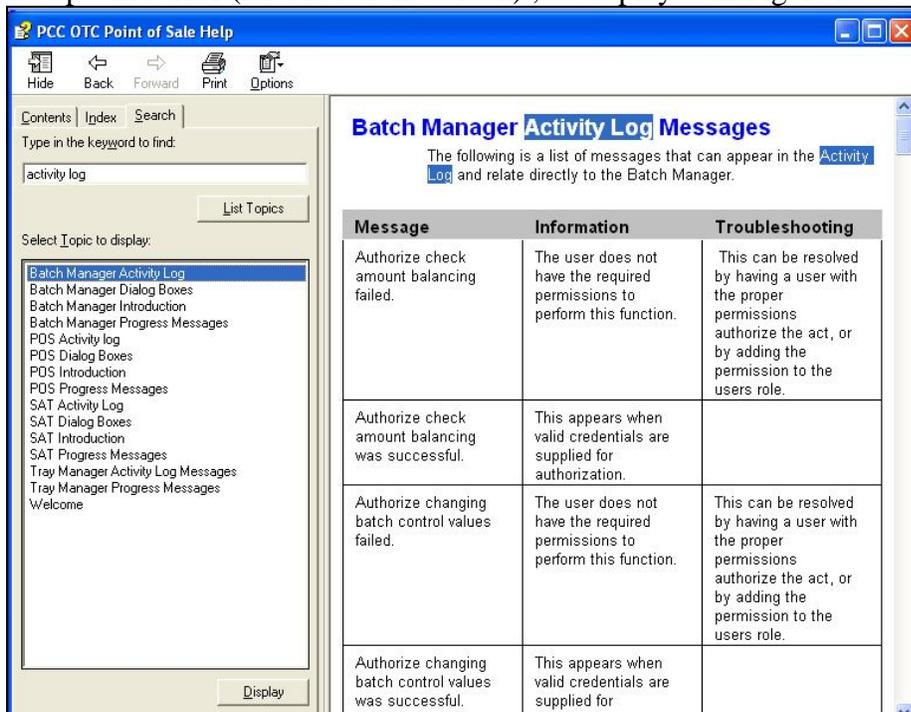

Figure 2.35
- Search – The search function allows the user to type a word or group of words to search for a specific error (left side of the screen) , as displayed in Figure 2.35.